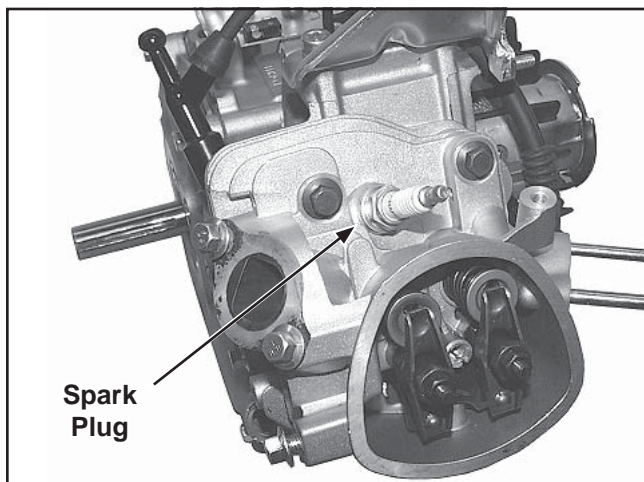

Figure 11-52. Installing and Torquing New Spark Plug.
6. Install the spark plug in the cylinder head and torque to **22-27 N·m (195-239 in. lb.)**. See Figure 11-52.